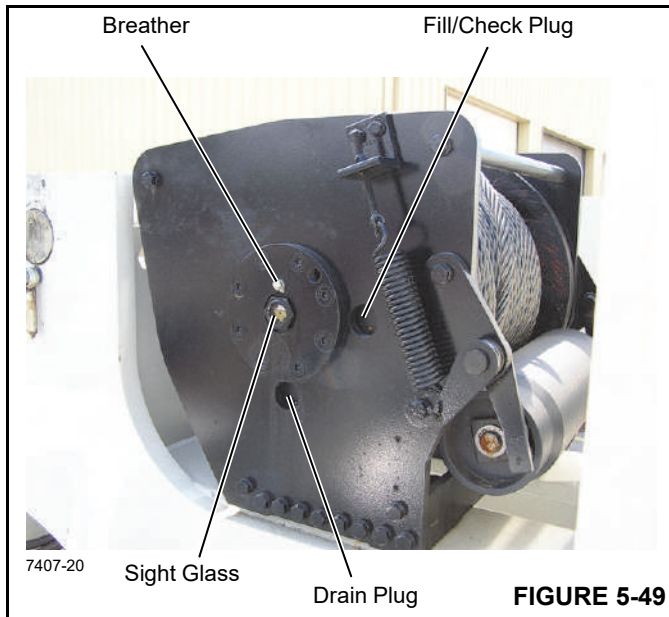

FIGURE 5-49
- Rotate hoist drum until the drain plug is visible through the lower hole in the side mounting bracket (Figure 5-49).
- Clean around the gearbox breather Figure 5-49 and the fill/check plug. Remove the gearbox breather and clean it in a suitable solvent, after which reinstall into the gear box.